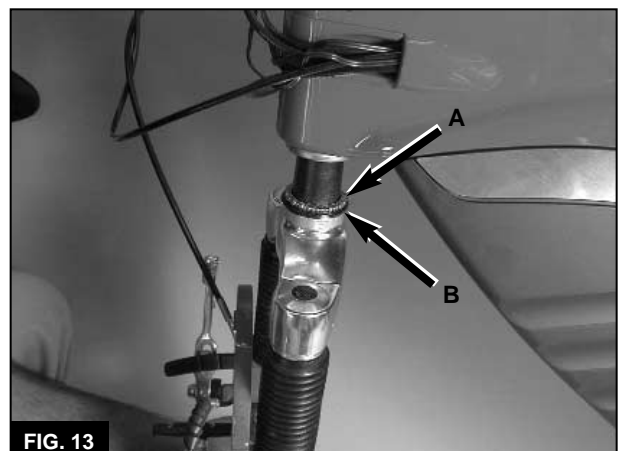

FIG. 13
12. Remove the lower bearing (A, **Figure 13**). Note how the bearing is oriented (the closed side of the retainer facing up toward lower head-tube race). The bearing will have to be installed in this position during assembly.
13. Remove the rubber seal (B, **Figure 13**) from the fork-crown race. Note how the seal is oriented. It will have to be installed in this position during assembly.